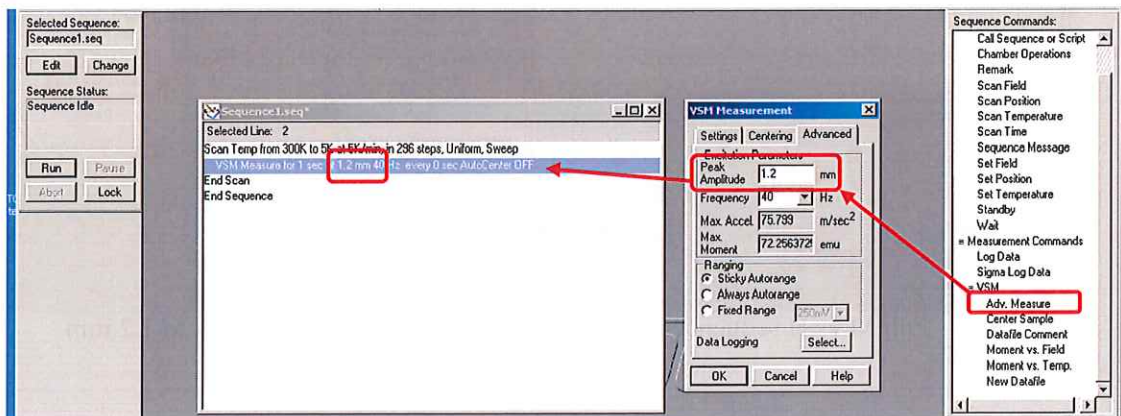

Fig 21a VSM measure command with 1.2 mm Peak Amplitude
M vs T and M vs H sequence measurements can be done similar to measurements without the pressure cell. As in immediate measurements described above, a maximum 1.2 mm peak amplitude should be used. The example shown in fig 21a & 21b shows a basic M vs T measurement. Note the following:
- Peak Amplitude of 1.2 mm specified in the VSM measure command (fig 21a).